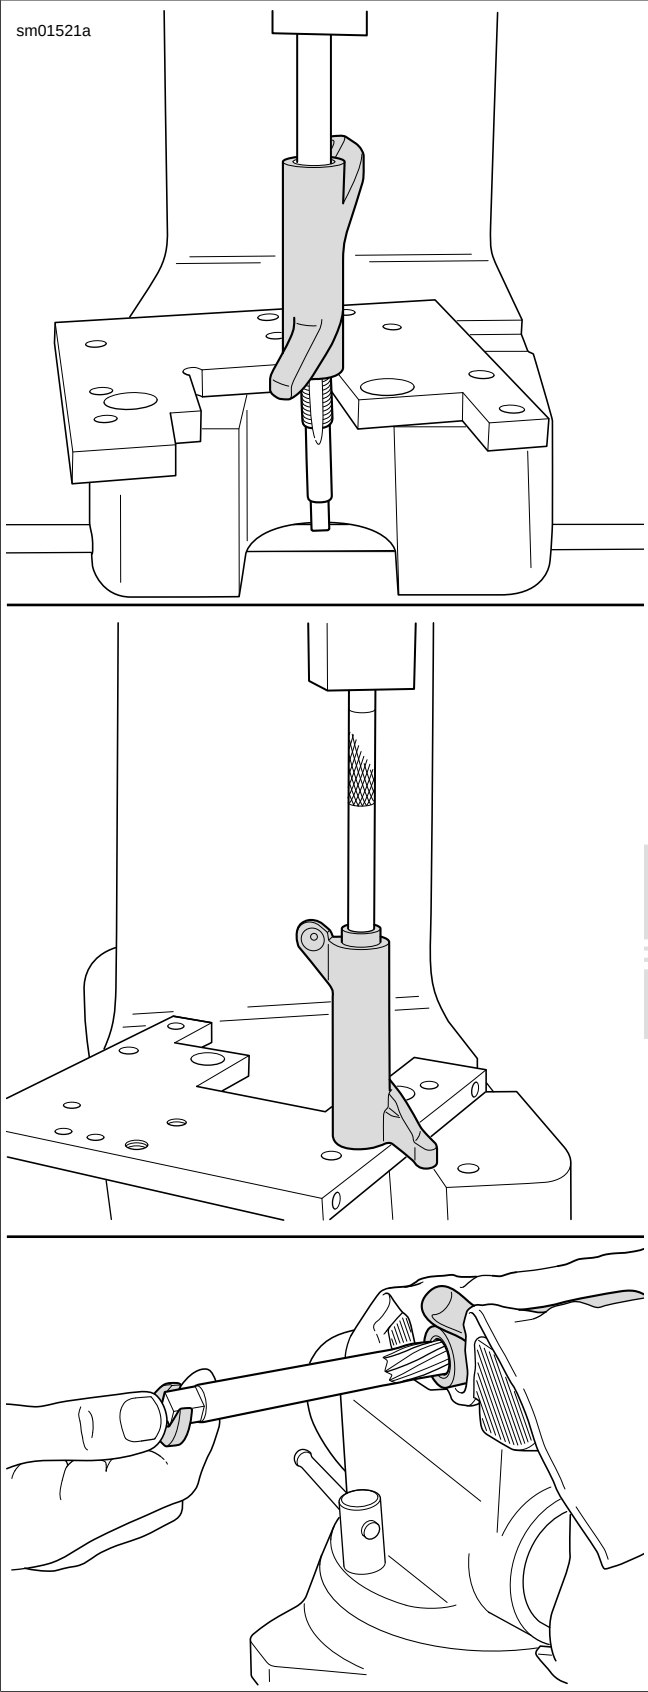

Figure 3-58. Replacing Rocker Arm Bushings
1. See Figure 3-58. To replace worn bushings, press or drive them from the rocker arm. If bushing is difficult to remove, turn a 9/16-18 tap into bushing. From opposite side of rocker arm, press out bushing and tap using a discarded rocker arm shaft.